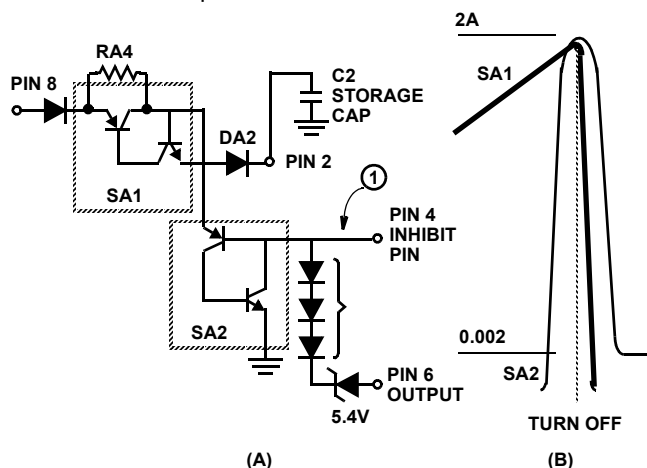

FIGURE 17 (A) (B). SCHEMATIC REPRESENTATION OF SCRs
decreases for C2 voltages below 5V. To understand why the voltage on C2 determines the maximum input current that the HV-2405E can safely turn off, its important to understand the electrical connection between SA1, SA2 and the storage capacitor C2. Figure 17(A) is a schematic representation of both SCRs and is presented to explain how SA2 turns off SA1.
Assume that SA1 is on and the current path is from pin 8 to pin 2. If a small current is pulled out of the base of SA2s npn (point 1, Figure 17A) SA2 will turn on. When SA2 turns on the collector current of SA1s npn no longer provides base drive to its npn and SA1 turns off. Figure 17(B) shows the current relationships for both SCRs.